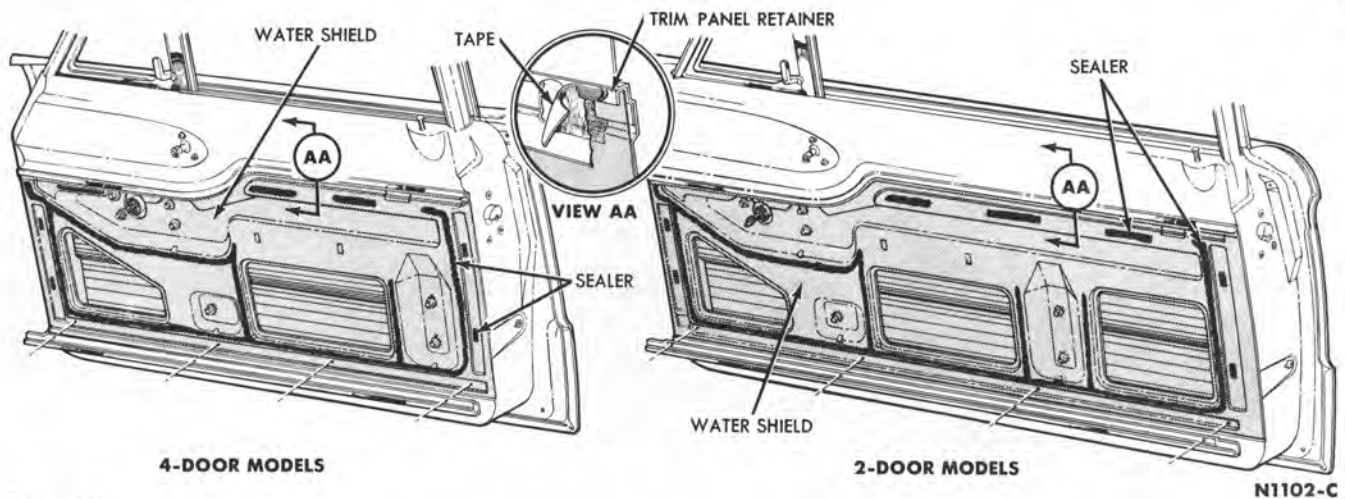

FIG. 10—Front Door Trim Water Shields
6. Fasten the plastic water shield to the inner panel with M-2G17-A cement (Fig. 10).